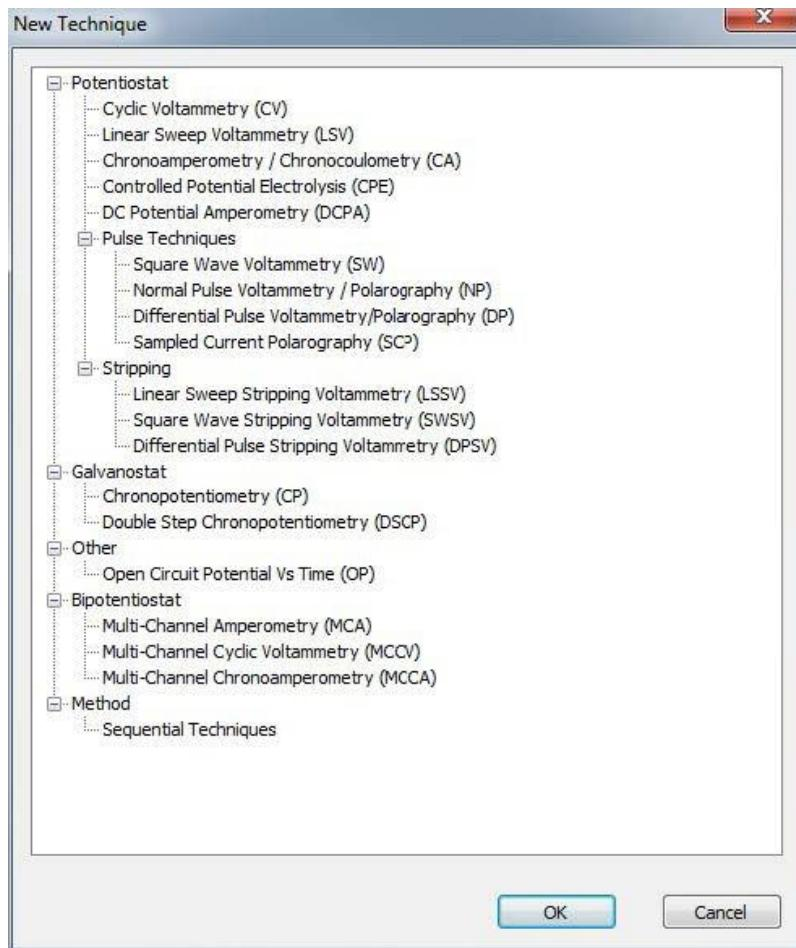

Figure 1 - Selecting a New Technique
3. Click **New** in the **File** menu to set up a new experiment. The list of available techniques is displayed (**Fig 1**). It should be noted that there are some techniques that are labeled as **DEMO**. This label indicates that this technique is **NOT** active on this particular Epsilon EClipse™. However, it is possible to load a data file for that technique to examine the parameters and the typical output. If the **RUN** button is clicked when a **DEMO** data file is displayed in the active window, an error message will be shown. The technique list shown in **Figure 1** is the list for the Basic-Plus and Methods Epsilon EClipse™ software.